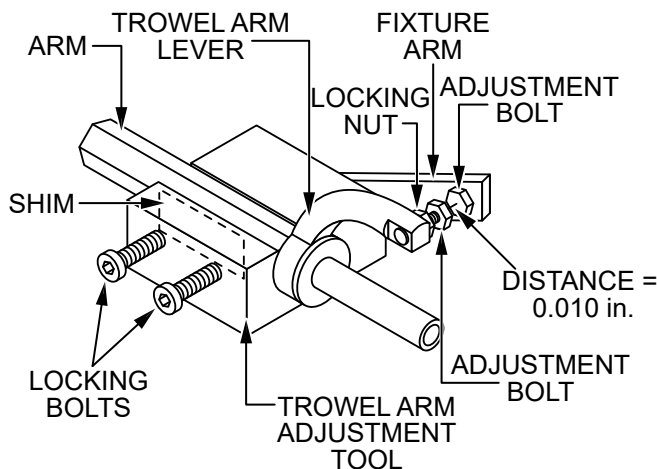

Figure 51. Trowel Arm Adjustment
4. Unscrew the **locking bolts** on the adjustment tool and place the **trowel arm** into the fixture channel as shown in Figure 51. A thin **shim** may be required to cover the blade holes on the trowel arm. Make sure to align the **trowel arm adjustment bolt** with the **fixture adjustment bolt**.
5. Tighten the **locking bolts** (Figure 51) with an Allen wrench to secure the trowel arm in place.
6. Loosen the **locking nut** on the **trowel arm lever** (Figure 51), then turn the **trowel arm adjustment bolt** until it barely touches (**0.010"**) the **fixture adjustment bolt**.